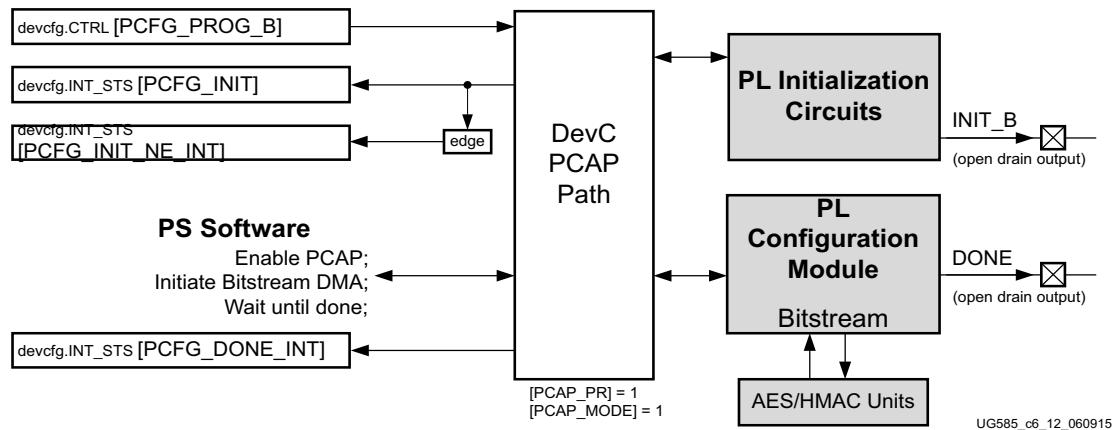

Figure 6-12: PCAP Path for PL Initialization and Configuration
4. **FSBL/User Code to Initialize and Configure PL.** The controls are shown in Figure 6-12. Refer to UG821, Zynq-7000 SoC Software Developers Guide for information on creating FSBL/User code.
The PL is controlled by PS software (Figure 6-12) through the PCAP bridge or using external pins and the JTAG interface associated with the PL (Figure 6-20, page 219).
The PS and PL can be brought up together in a secure or non-secure mode. The simultaneous bring-up of the PS and PL is shown in Figure 6-12. Also refer to Figure 6-4, page 164 for details on power, reset, and clock interactions and timing examples. The PS non-secure bring-up using a flash device without JTAG illustrates a simple example with minimal resources. The example is shown in Figure 6-14. When the PL is needed later in the system operation, its bring-up is explained in the PL Bring-up by FSBL/User Code example.